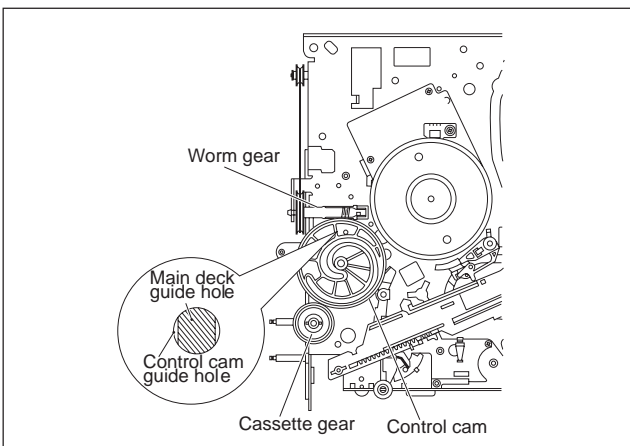

Fig.3-2-13c
- (2) Rotate the worm gear until the guide hole of the control cam is aligned exactly with the guide hole of the main deck. (See Fig.3-2-13c.)